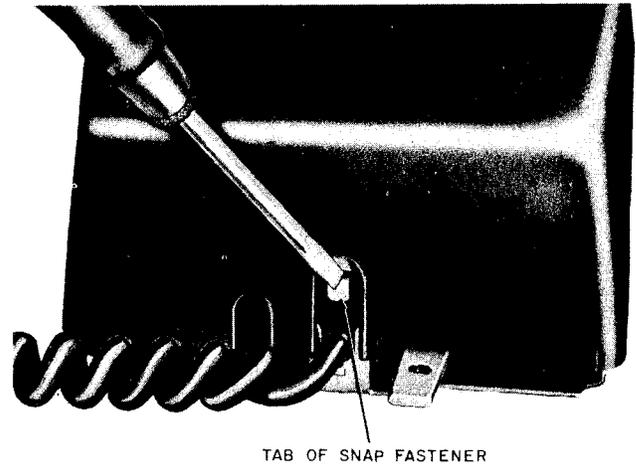

Fig. 10 — Wall Telephone Set Housing Removal
(1) Removal
- Push inward on tab of snap fastener (Fig. 10) located in handset cord slot.
- Lift lower part of housing outward and upward, releasing snap fastener, and disengaging latch opening assembly (Fig. 10 and 11).
(2) Replacement